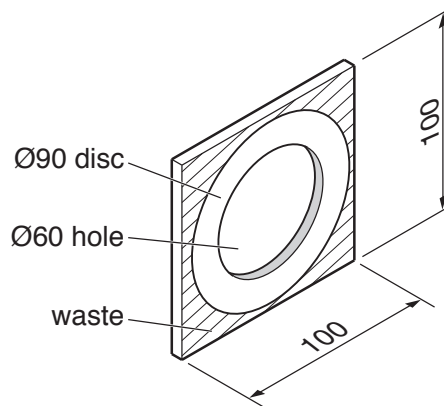

Fig. 14
- (c) Fig. 14 shows one disc marked out, ready to be cut to shape. The  $\text{\O}60$  hole has been drilled in the disc.